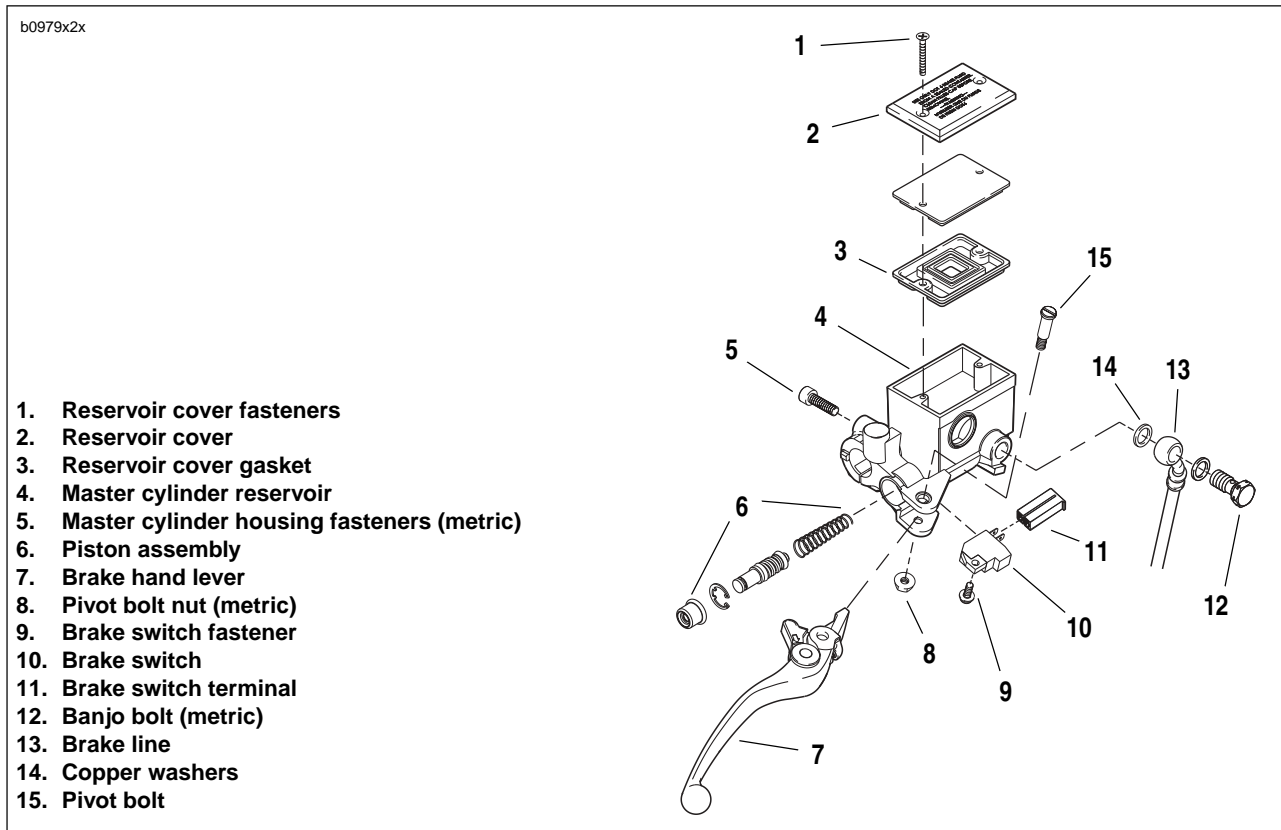

Figure 2-35. Front Brake Hand Lever Assembly
2. See Figure 2-35. Remove the banjo bolt (12) (metric) and two copper washers (14) to disconnect brake line (13) from master cylinder (4). Discard copper washers.
3. Unplug terminal (11) to detach brake lamp switch (10).
1. See Figure 2-35. Remove pivot bolt nut (8) (metric) and pivot bolt (15) from hand lever pivot.
2. Detach front brake hand lever assembly (7) from hand lever pivot.
3. Detach front brake lamp switch (10) by removing the switch fastener (9).
1. See Figure 2-35. Remove master cylinder cover (2) by removing cylinder cover fasteners (1).
5. See Figure 2-35. Remove piston assembly (6) from front master cylinder reservoir (4) and discard.
4. See Figure 2-35. Insert piston assembly (6), spring first, into master cylinder reservoir (4).
1. See Figure 2-35. Lubricate pivot bolt (15) with LOCTITE ANTI-SEIZE.
2. Align hole in hand lever (7) with hole in hand lever pivot and install pivot bolt (15) through top of hand lever pivot and tighten to 80-120 **in-lbs** (9-14 Nm).
1. See Figure 2-35. Install front brake lamp switch (10).
- a. Install brake lamp switch (10) with switch fastener (9) and tighten to 7-10 **in-lbs** (0.8-1.0 Nm).
- b. Connect brake switch terminal (11) to brake lamp switch (10).
3. See Figure 2-35. Connect brake line to master cylinder using two **new** copper washers (14) and banjo bolt (4) (metric) and tighten to 16-20 **ft-lbs** (22-27 Nm).
5. See Figure 2-35. Remove two master cylinder cover screws (1), cover (2) and cover gasket (3).
9. See Figure 2-35. Attach master cylinder cover (2) and cover gasket (3). Tighten two cover fasteners (1) to 9-13 **in-lbs** (1.0-1.5 Nm).
3. See Figure 2-35. Remove master cylinder banjo bolt (12) (metric) and two copper washers (14) to disconnect brake line from master cylinder (4). Discard copper washers.
1. See Figure 2-35. Connect brake line (13) to master cylinder (4) using two **new** copper washers (14) and a banjo bolt (12) (metric). Loosely install bolt into master cylinder.
5. See Figure 2-35. Tighten master cylinder banjo bolt (12) (metric) to 16-20 ft-lbs (22-27 Nm).